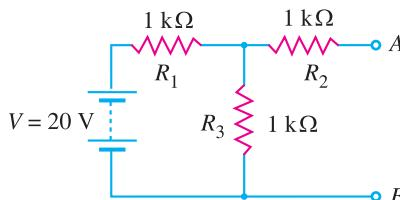

Fig. 1.31
**Example 1.9.** Find the Thevenin's equivalent circuit for Fig. 1.31.